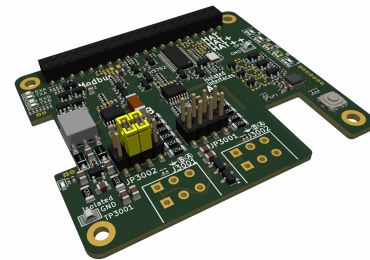

Figure 4: JP3001 / JP3002 RS-485 end-node configuration. Left: 120 Ω termination enabled, bias disabled.
Figures 4 illustrate valid end-node configurations:
- Enable termination without biasing at one bus endpoint (Figure 4, right)
- If needed, enable termination with biasing at the opposite endpoint (Figure 4, left)